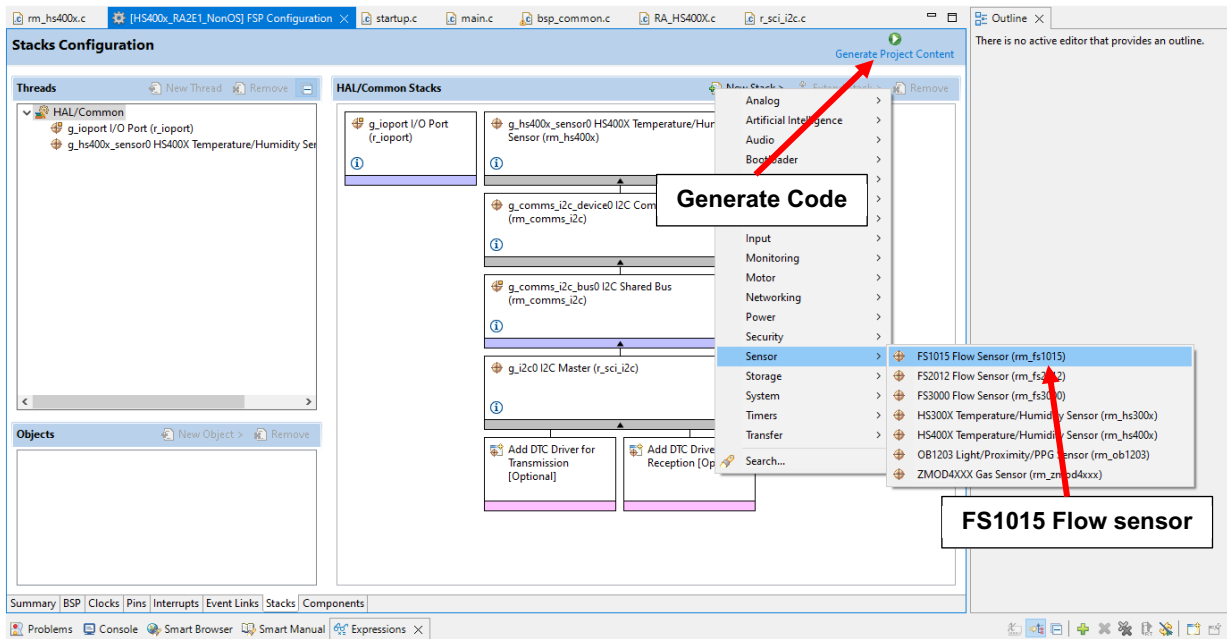

Figure 2. Stack Selection in Renesas e² Studio
1. Navigate to the file in the FSP Configuration View. In the case shown in Figure 2, select the FS1015 Flow Sensor.